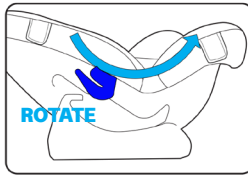

Figure 2
STEP 2: Rotate the restraint into the desired recline angle. (refer **Figure 2**) Ensure the restraint is fully reclined (as Far as possible). Note: Rearward Facing recline indicator is visible (refer **Figure 3**).